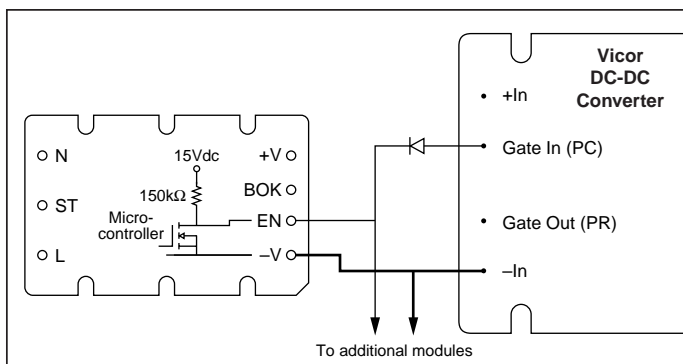

Figure 9—Enable (EN) function
Enable (EN) Pin. (See Fig. 9). The Enable pin must be connected to the Gate-In or PC pin of all converter modules to disable the converters during power-up. Otherwise, the converters would attempt to start while the holdup capacitors were being charged through an unbypassed thermistor, preventing the bus voltage from reaching the thermistor bypass threshold thus disabling the power supply. The Enable output (the drain of an N channel MOSFET) is internally pulled up to 15V through a 150kΩ resistor.